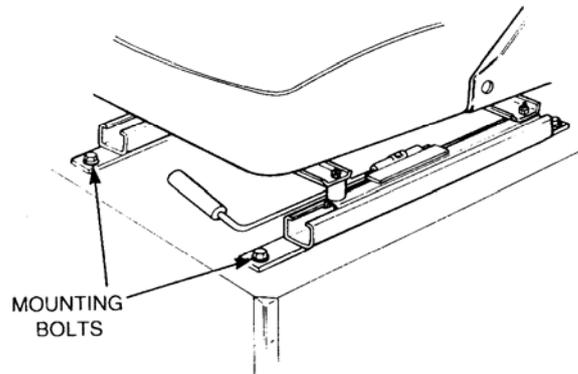

Figure 6 Front Seat Replacement
- b. Remove the two-hexagon head bolts at the front of the frame (refer Figure 6).